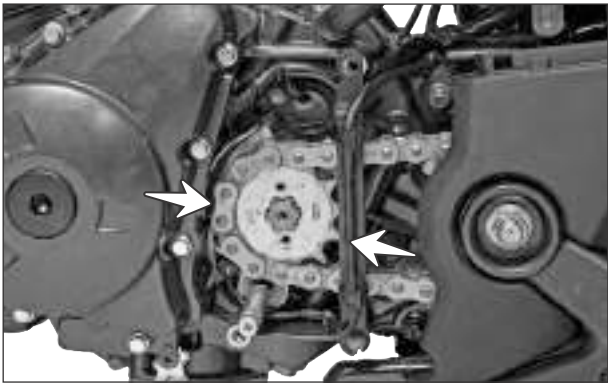

Fig. 3.104
- 1 Pull out the sprocket engine along with drive chain assembly from shaft drive. (Fig. 3.104)